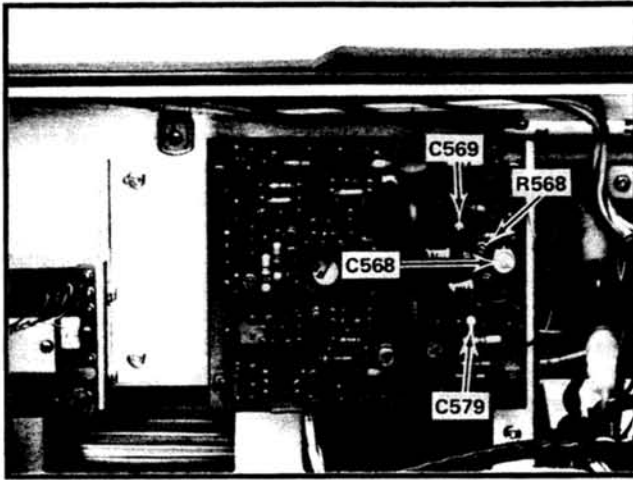

Fig. 5-20. Location of C569, C579, C568, and R568.
h. Observe the setting of adjustable capacitors C569 and C579 (see Fig. 5-20). Nominal setting for them is equal adjustment at or near minimum capacity (turned out).
n. ADJUST—C568 (see Fig. 5-20) to adjust timing to the same timing error observed at  $.05 \mu\text{s}/\text{div}$  with X1 magnifier.
q. ADJUST—R568 (see Fig. 5-20) to adjust timing to the same timing error observed at  $.02 \mu\text{s}/\text{div}$  with X1 magnifier.